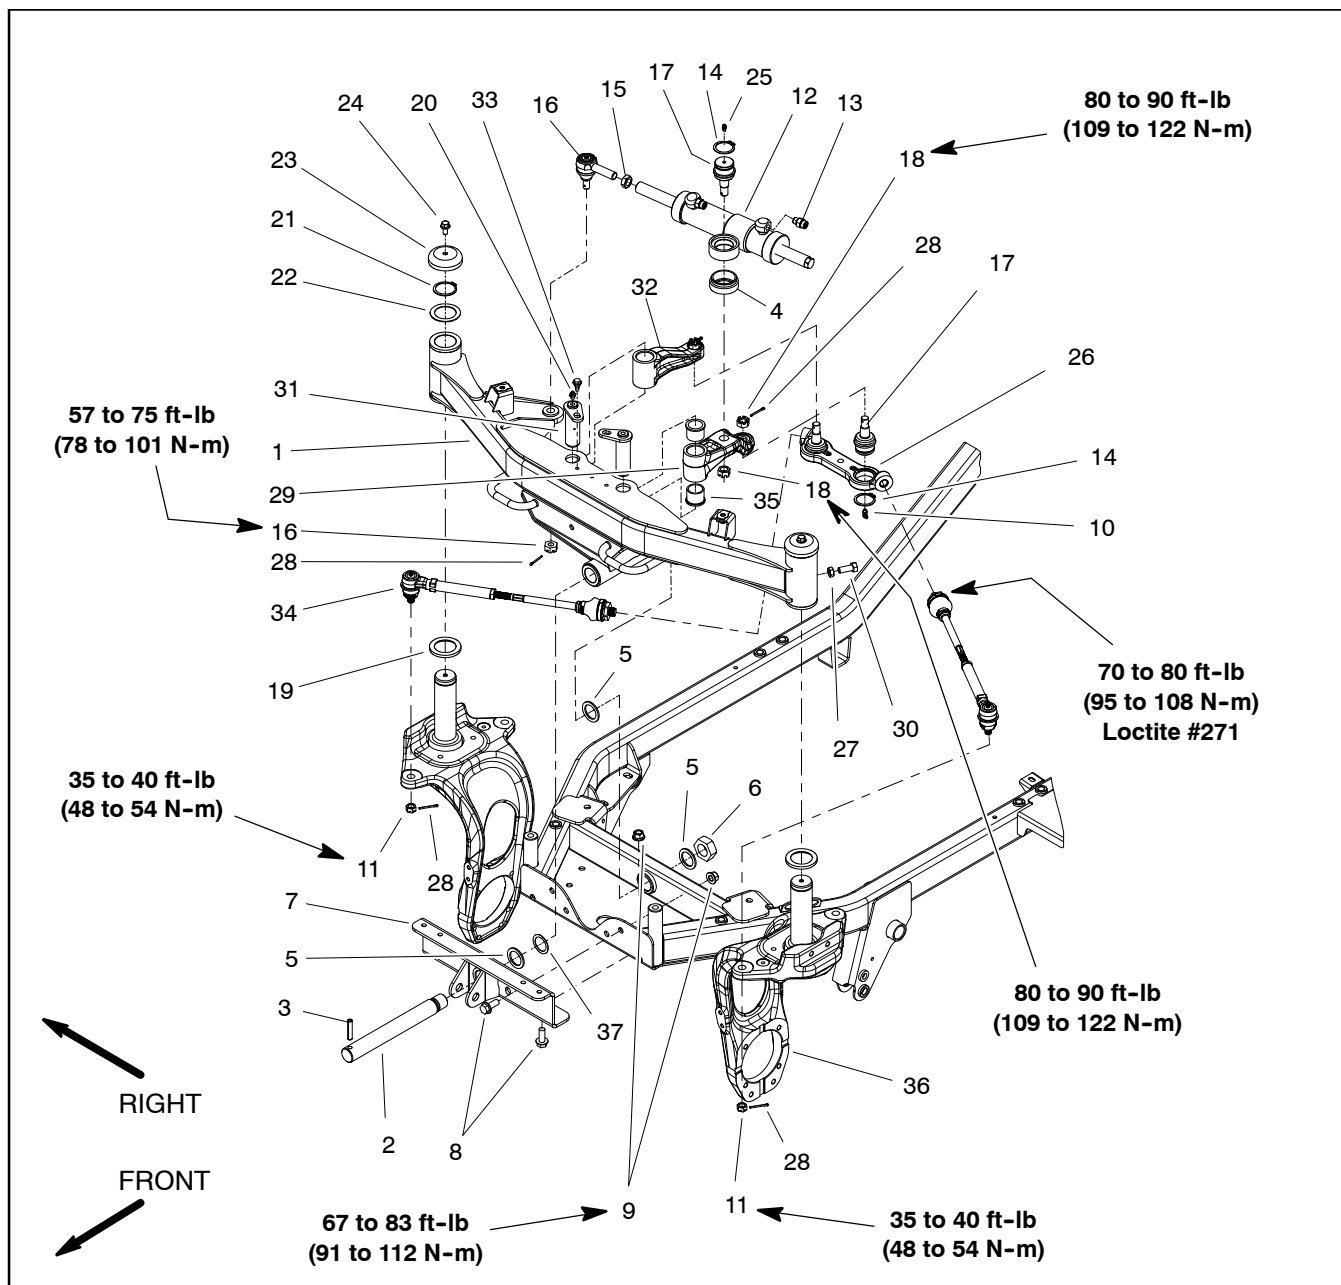
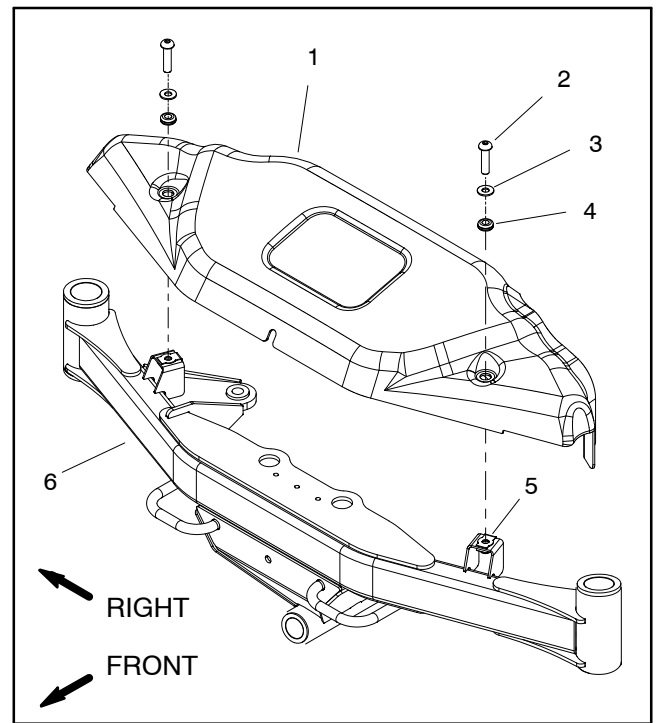
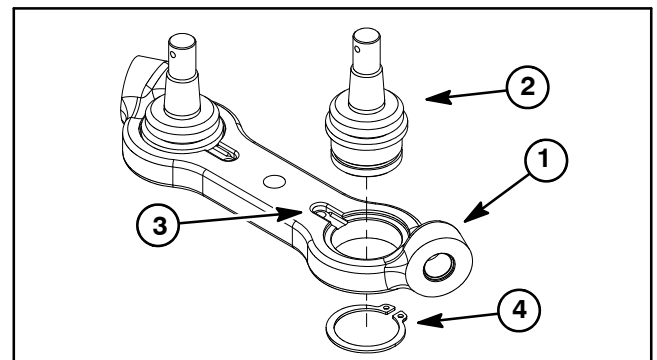

Figure 27
Figure 28
Figure 30
## Disassembly (Fig. 27)
2. Remove front cover from front axle to allow access to front steering components (Fig. 28).
8. To remove tie rod (item 34) from machine:
9. Remove additional front steering components as necessary using Figure 27 as a guide.
10. If bushings in the front axle (item 5 or 6 in Fig. 28), front axle LH arm (item 29 in Fig. 27) or front axle RH arm (item 32 in Fig. 27) are worn or damaged, replace bushings (see Steering Assembly Bushing Service in this section).
## Assembly (Fig. 27)
1. Install all removed front steering components using Figure 27 as a guide. Note torque specifications identified in Figure 27 during assembly. If front axle was removed from frame, use washers (item 37) so axle has less than 0.030" (0.76 mm) free play between frame and axle support. If ball joints were removed from center link (item 26), press new ball joints into center link from the side of the link that has a notch at ball joint bore (Fig. 30).
2. To install tie rod (item 34) to vehicle:
8. Install front cover to front axle (Fig. 28).